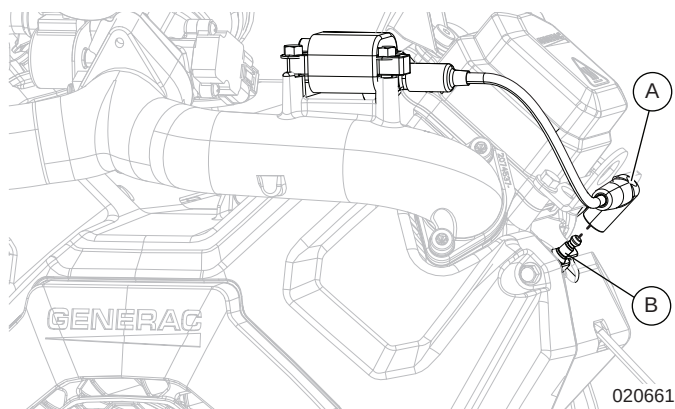

Figure 7-13. Install spark plug wires
2. Fasten coils to crankcase using four fasteners (C) and tighten to 88.5 - 106.2 in-lbs (10-12 Nm)..
3. See Figure 7-13. Install spark wires (A) to spark plugs (B).